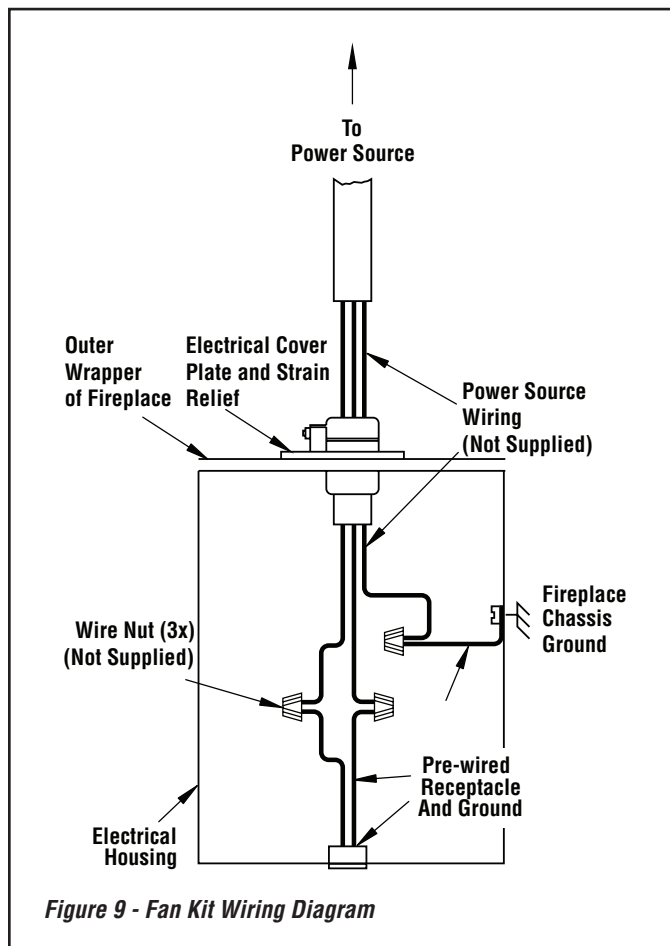

Figure 9 - Fan Kit Wiring Diagram
4. Place all wiring connections into electric housing as shown in **Figure 9**.